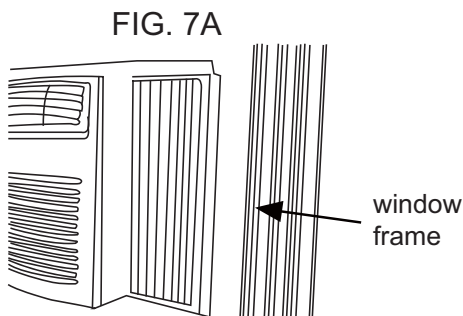
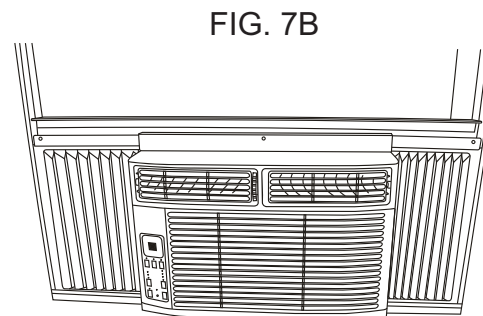

FIG. 7A
FIG. 7B
- 4** Extend the side panels out against the window frame (FIG. 7A for wooden windows), (FIG. 7B for Vinyl-Clad windows).